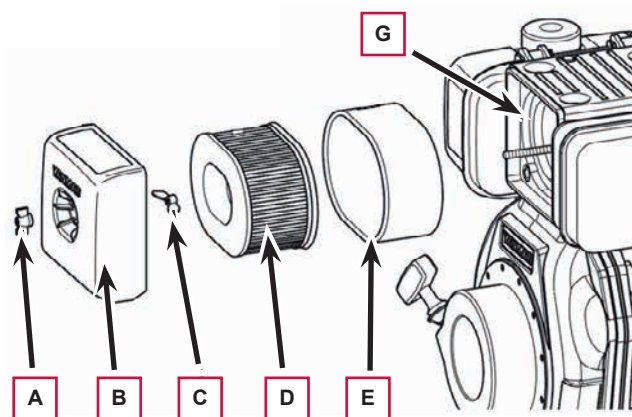

Figure 4
5. Remove the wing nut (A, Figure 4) and remove the cover (B).
6. Remove the wing nut (C) and disassemble the filter element.
7. Separate the paper filter (D) from the foam filter (E).
8. Check both filters and replace them if necessary. Replace the paper filter (D) when required (see Scheduled Maintenance Table).
10. Clean with a wet cloth the base and the cover (B) of the air filter. Take care to prevent dirt entering the air duct (G).
11. Fit the foam filter (E) on the paper filter (D), then install the assembled filter element. Screw down the filter element wing nut (C).
12. Install the cover (B) and screw down the wing nut (A).